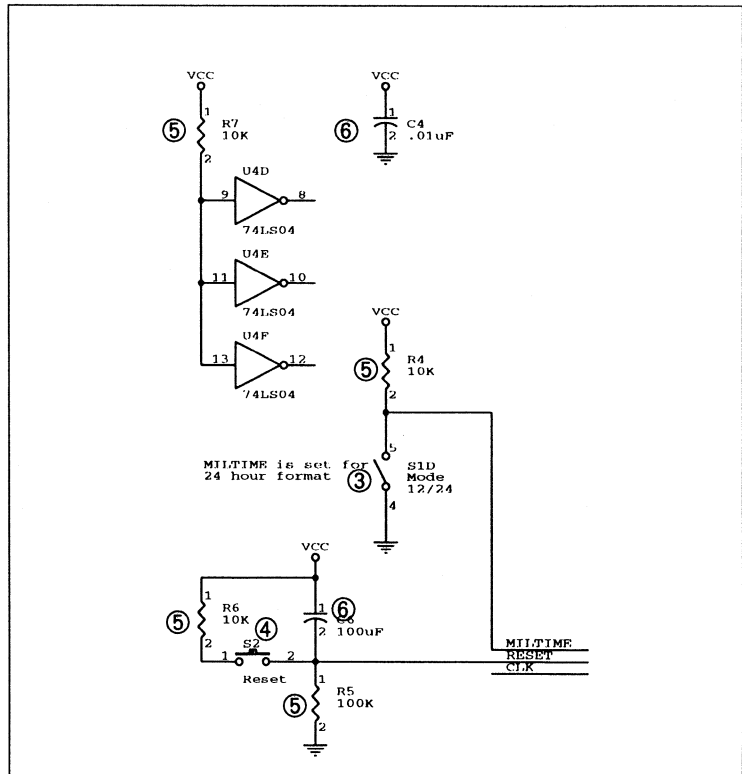

Figure 6-8. Switches, resistors, and capacitors to be placed. The callouts refer to the step numbers in this section.
There are four resistors, three inverters, two capacitors, two switches, and several power and ground symbols needed to complete the logic and display circuit schematic. Figure 6-8 shows the location of these parts.
3. With the part selected and the outline showing on the screen, select **Rotate** to turn the part so the orientation matches that shown in figure 6-8. Move the part to location (2.70, 6.00) and place it.
6. Inspect the wire intersections and use the **Place Junction** command to add junctions where required, as shown in figure 6-8.